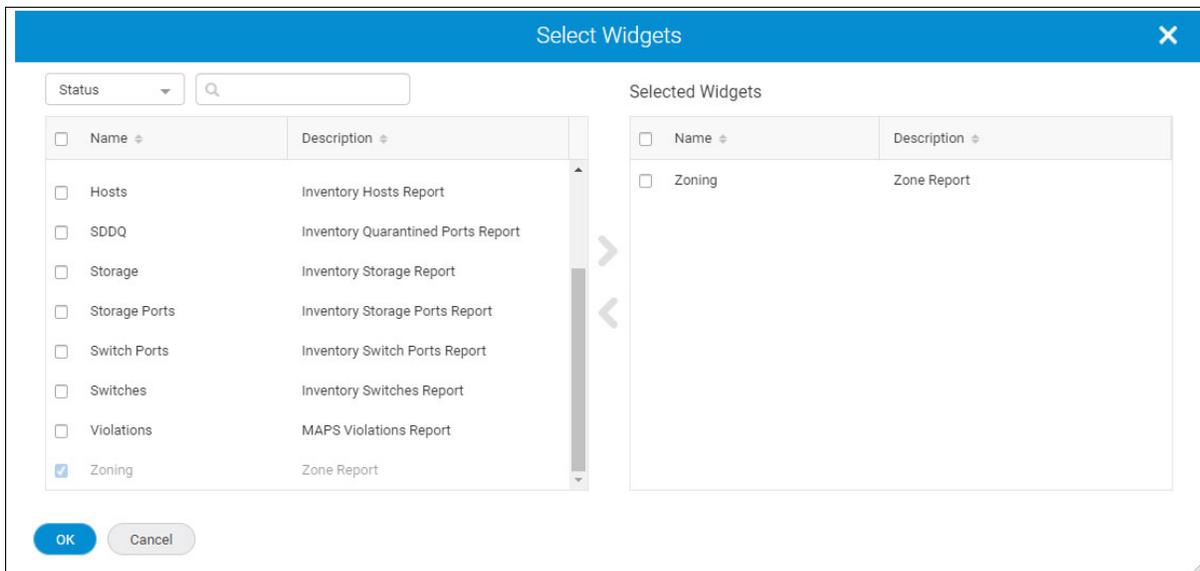

Figure 5-52 Creating a zoning report: Select Widgets
3. Select **Status** from the drop-down list, and then select the **Zoning** widget and click the right arrow to move it to the right side of the window. The **Zoning** widget is moved under Selected Widgets (Figure 5-52).